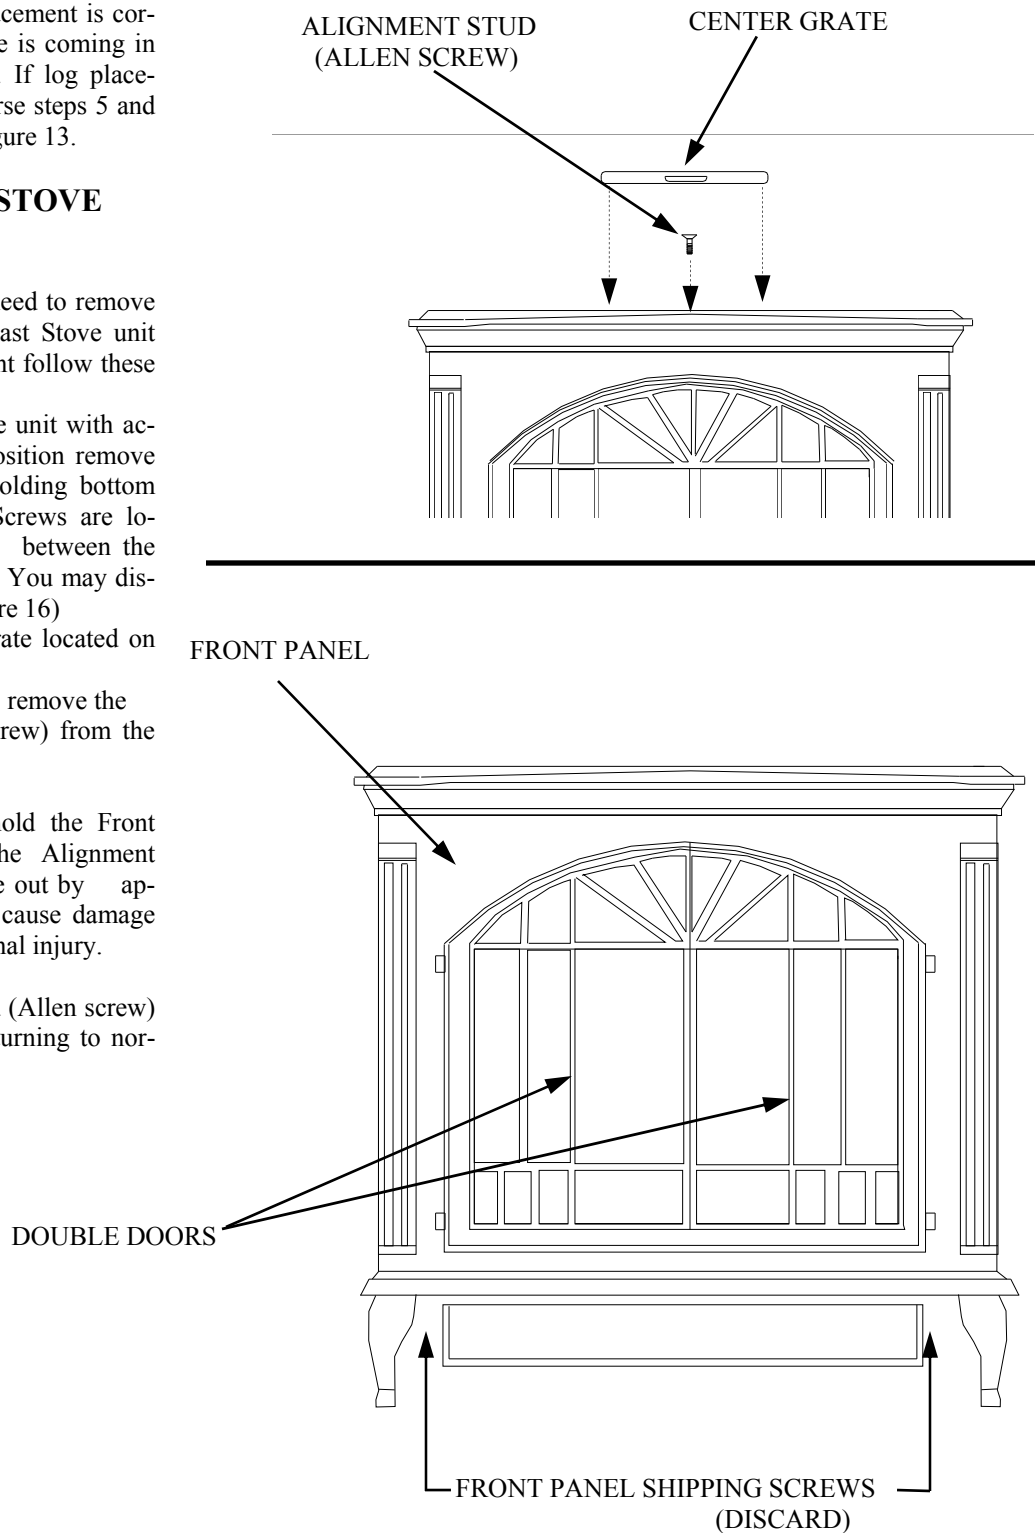

FIGURE 16 - FRONT OF CAST STOVE/FRONT PANEL
A. Facing the front of the unit with access door in the closed position remove the two (2) hex screws holding bottom front of stove in place. Screws are located on the bottom front between the access door and front legs. You may discard the screws. (See Figure 16)